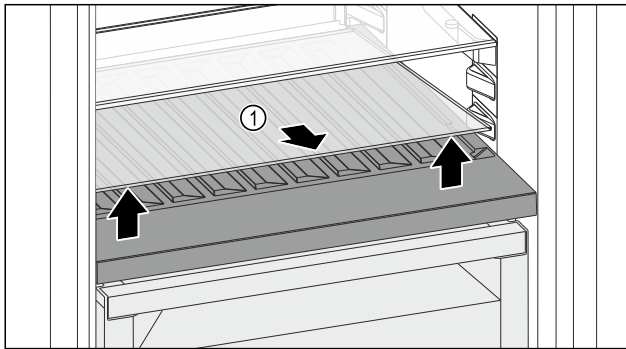

Fig. 162
- ▶ Lift the glass shelf Fig. 162 (1) at the front and remove.
- ▶ Store the glass shelf Fig. 162 (1) in a safe place outside the appliance.